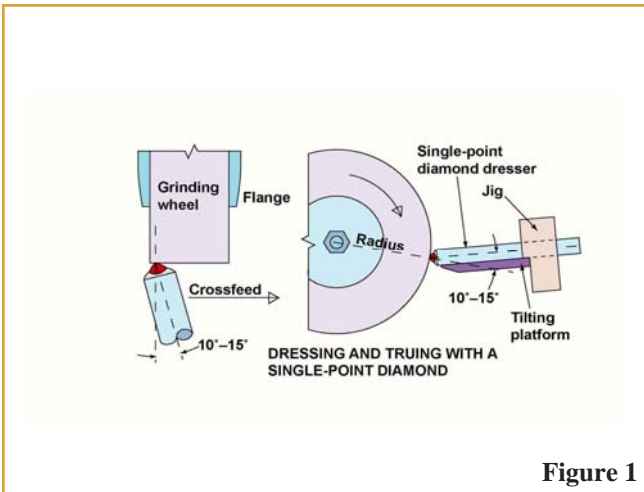

Figure 1
Figure 1 shows how the single-point diamond should be presented to and moved across a revolving grinding-wheel periphery. To aid this, the diamond is usually sold held in the end of a shaft about 1/2" diameter and 6" long. This shaft must in turn be held in some form of jig.
2. With the grinder switched off, and the dressing jig pressed against the back and top of the platform, lock the platform with a downwards tilt of about 15° and the diamond in contact with the wheel periphery as shown in figure 1.